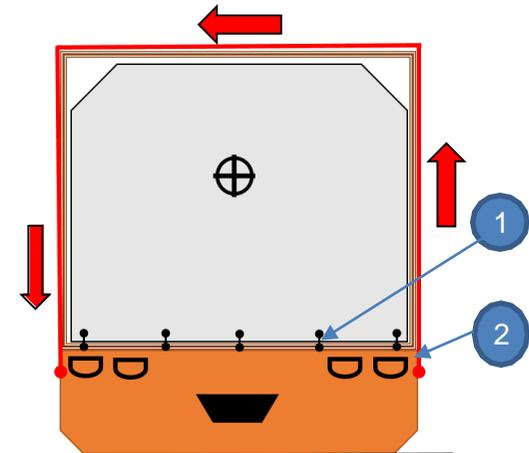

Fig. 1. Crate under 10t with securing to the bottom frame
- (1) Cargo inside a crate/box shall be adequately secured to prevent any movement during cargo operation and sea transportation (see fig 1).
- (2) Strong and solid crate, allowing lashings to be applied as top over lashings (see fig 1). Subject to size and shape of the crate if this securing method can be used